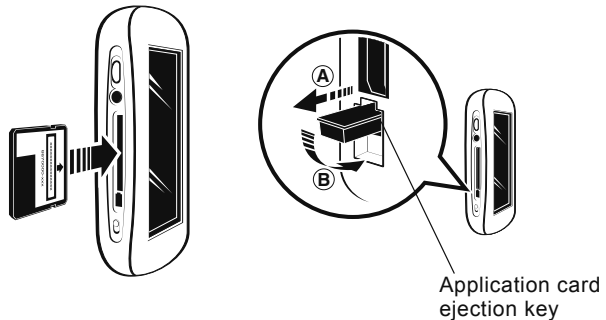

Figure 11. Inserting the application card.
1. Insert the application card (arrow and bar code side facing up and in the direction of the arrow) into the card slot until it is seated (Figure 11).